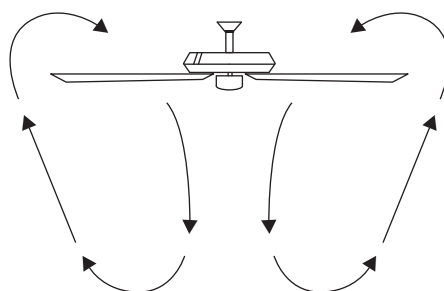

Figure 4
**Warm weather** - (Counter- clockwise Direction) A downward air flow creates a cooling effect. This allows you to set your air conditioner on a warmer setting without affecting your comfort. (Figure 4)